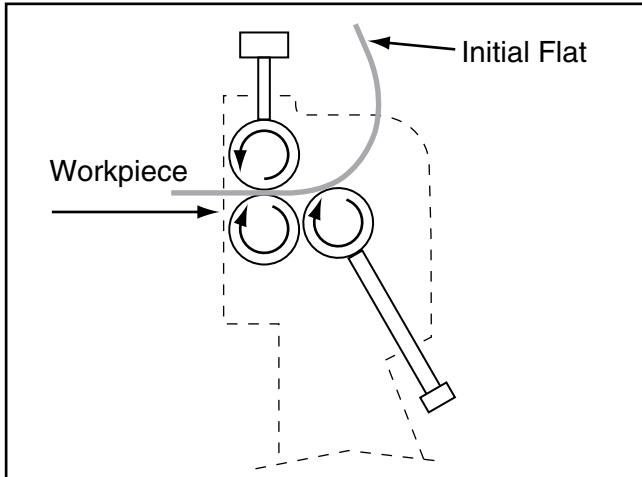

Figure 18. Workpiece fed through rollers to create curved workpiece.
- Pass workpiece through machine using hand crank to create curve (see **Figure 18**).
Note: If workpiece has an undesired initial flat, as illustrated in **Figure 18**, you can remove it by flipping workpiece around and passing it through front of machine so initial flat enters last.